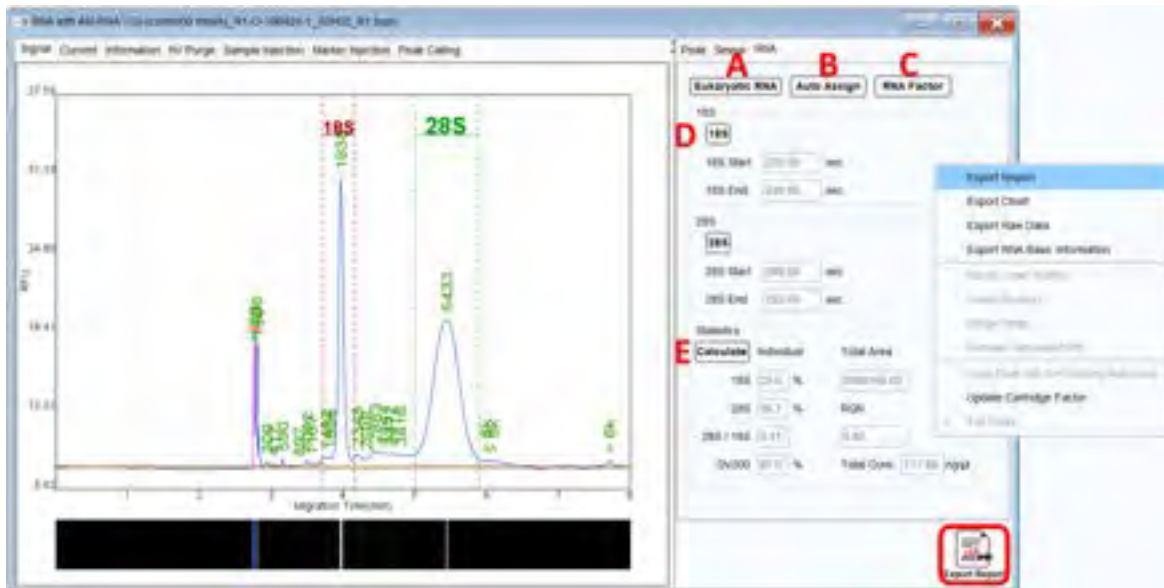

Figure 72 RNA Quality Check Panel
4. To choose either Eukaryotic RNA or Prokaryotic RNA, click on the **Eukaryotic RNA** button (Figure 72 A)
5. The systems will **Auto Assign** 18S/28S RNA (Eukaryotic) or 16S/23S RNA (Prokaryotic) based on your selection (Figure 72 B). If the margins do not properly cover the RNA area, you can manually drag them to the correct positions.
6. To save the settings, click on the **RNA Factor** button to edit and save the RNA factor table (Figure 72 C).
7. By clicking the 18S and 28S or 16S and 23S buttons, you can either hide or show (by default) the rRNA assignment on the electropherogram (Figure 72 D).
8. Click on the **Calculate** button, and the 28S/18S or 23S/16S ratio, along with the RQN (RNA Quality Number) will be displayed (Figure 72 E).